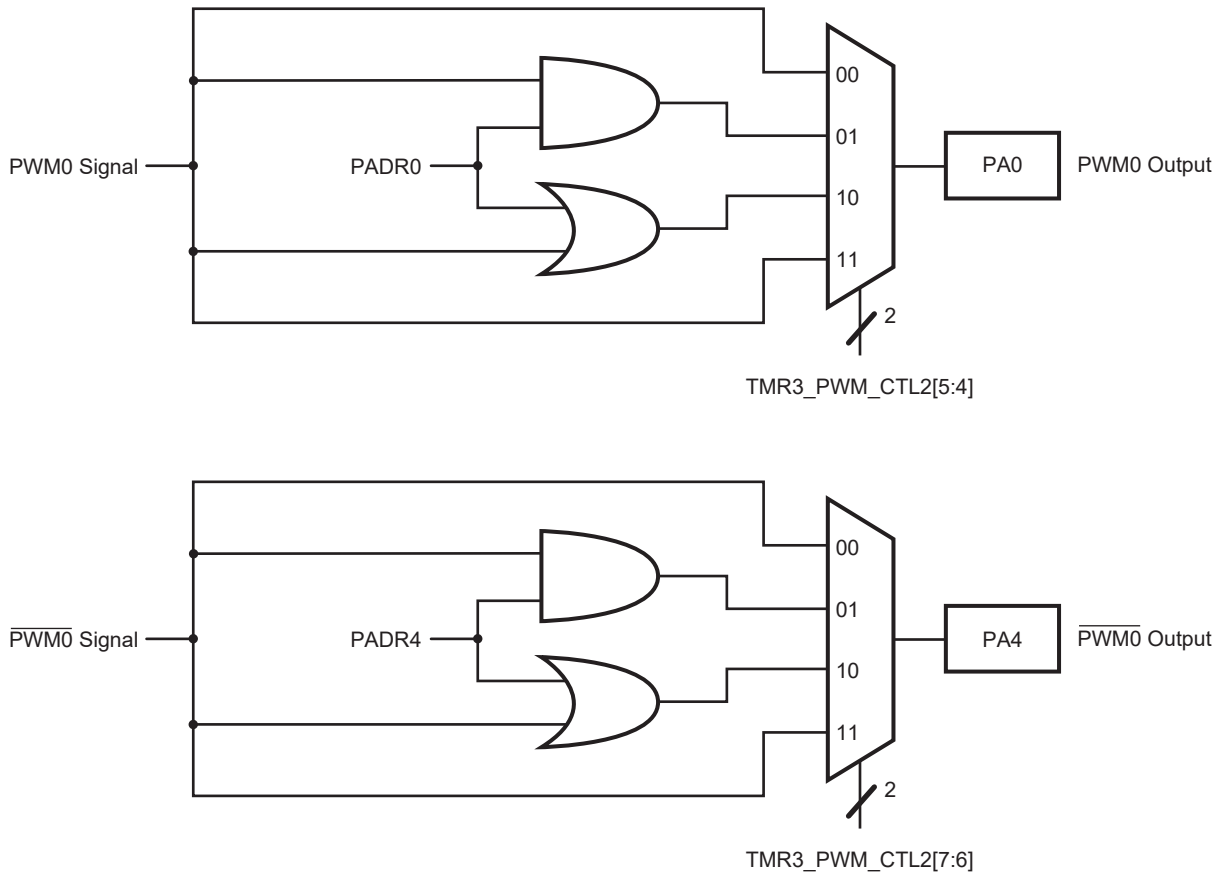

Figure 33. PWM AND/OR Gating Functional Diagram
The AND or OR functions are enabled on all PWM outputs by setting TMR3_PWM_CTL2[AO_EN] to either a 01b (AND) or 10b (OR). Any other value disables this feature. Likewise, the AND or OR functions are enabled on all $\overline{\text{PWM}}$ outputs by setting TMR3_PWM_CTL2[AON_EN] to either a 01b (AND) or 10b (OR). Any other value disables this feature. A functional block diagram for the AND/OR gating feature for PWM0 and $\overline{\text{PWM0}}$ is displayed in Figure 33 on page 150. The functionality for the other three PWM pairs are identical.